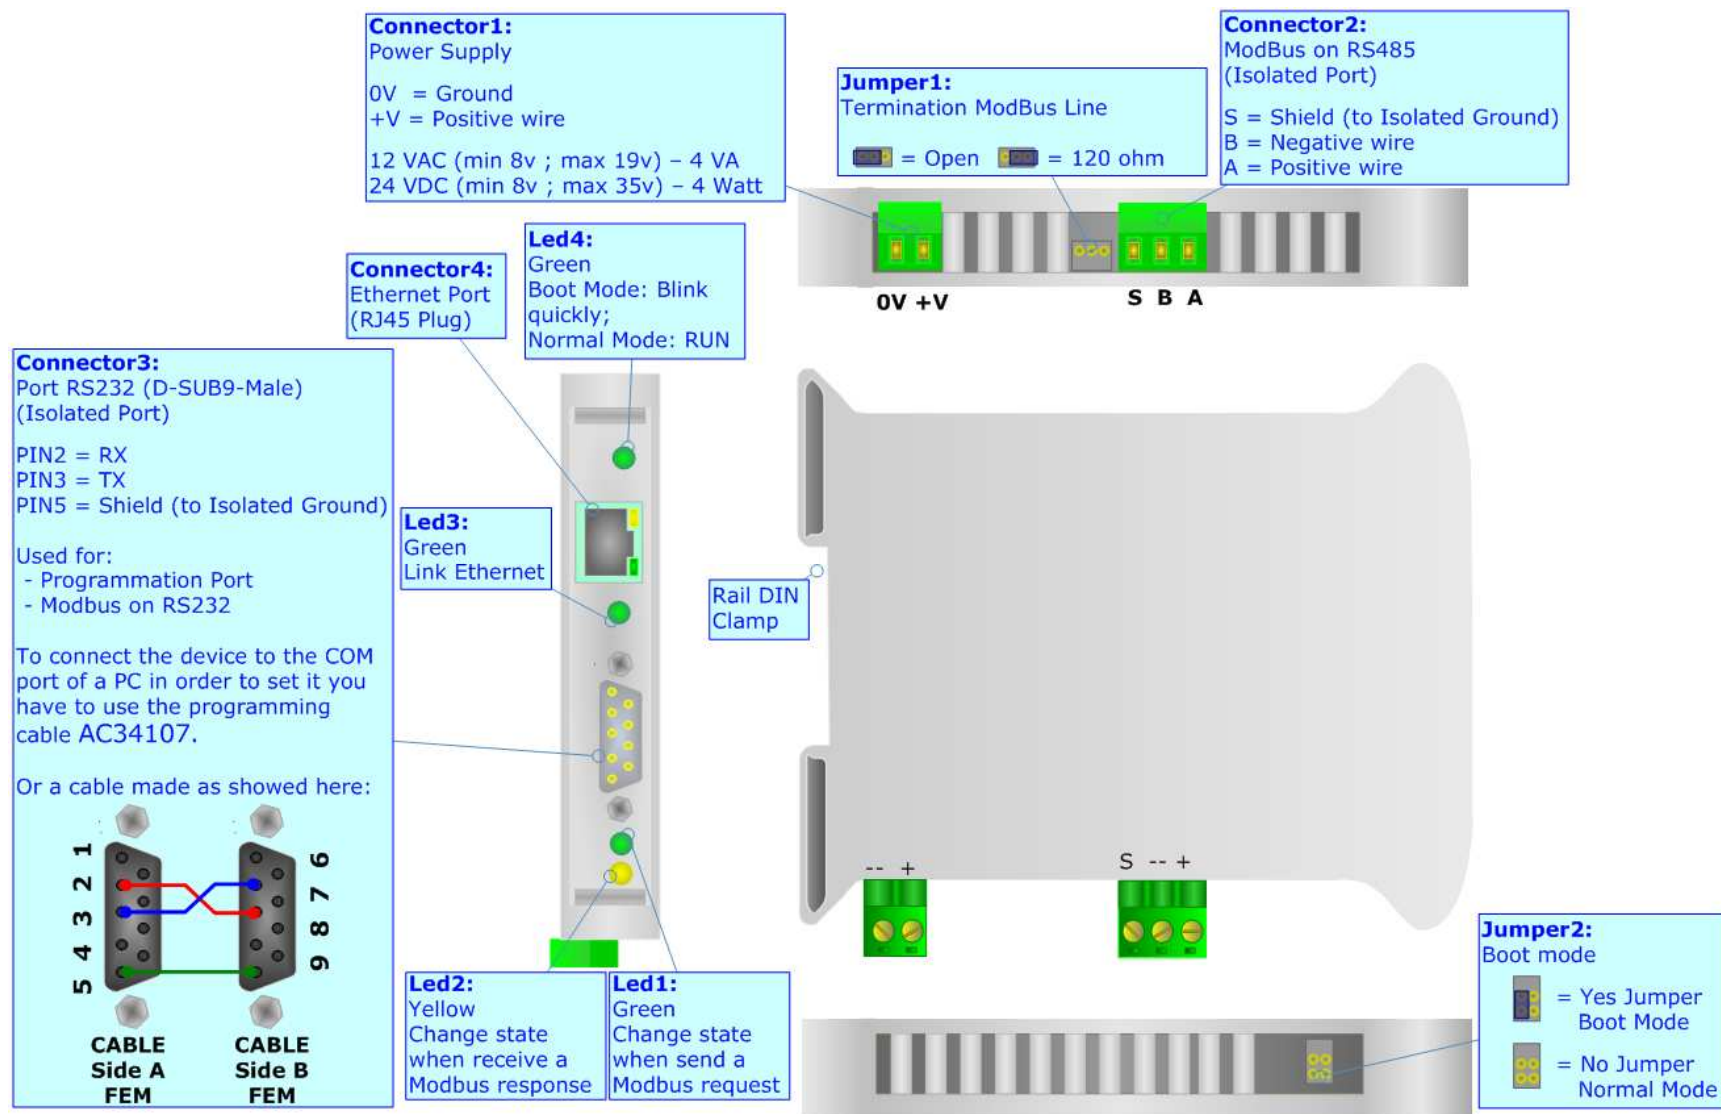

Figure 1: Connection scheme HD67506
- Insert the Boot Jumper (see the Fig. 1,2 for more info);
- Check the "BOOT Led". It must to blink quickly (Seethe Fig. 1 for more info);